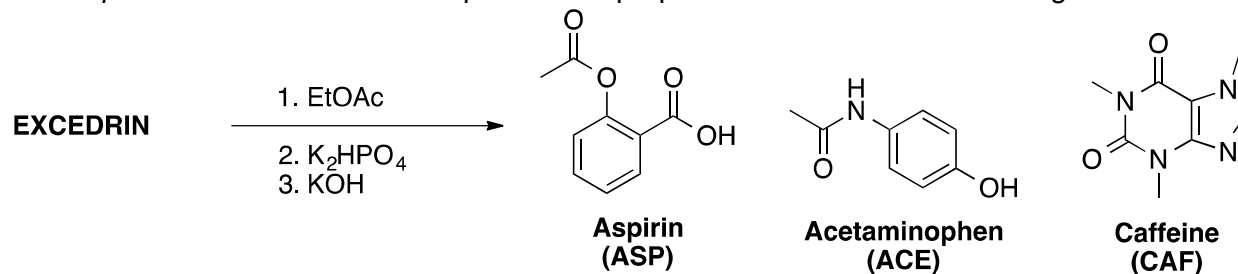

**Figure 3.** Flow chart for the acid-base extraction of a carboxylic acid from an amine.
Suppose you're separating a mixture containing a carboxylic acid, phenol, and an amine. The extraction can be started in one of two ways: (1) react the carboxylic acid with a weak base or (2) react the amine with an acid. Either way will theoretically work, but let's work through the example that starts with a mildly basic extraction (**Figure 3**).